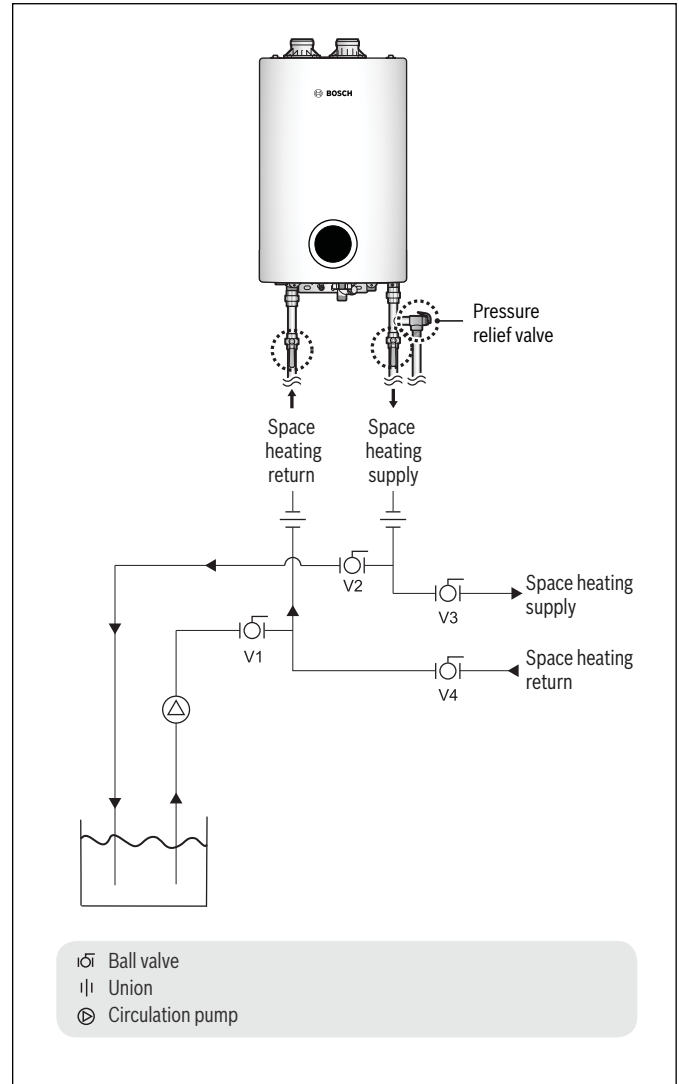

Figure 129
14. Remove phillips screws on upper and lower heat exchanger bracket located on right and left side of the heat exchanger (Fig.129).